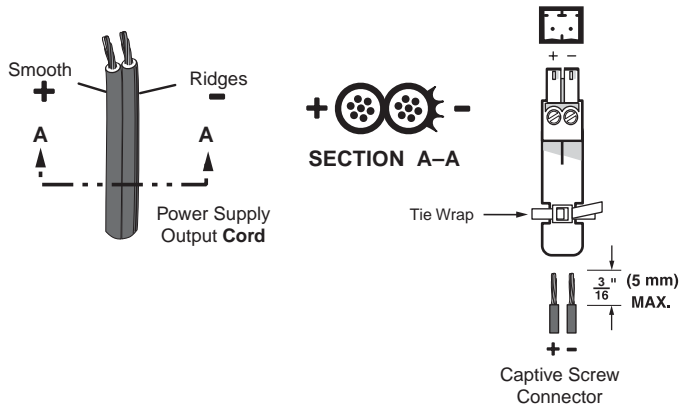

Figure 14. Power Connector Wiring
Figure 14 shows how to wire the power connector.
- Power supply voltage polarity is critical. Incorrect voltage polarity can damage the power supply and the unit. The ridges on the side of the cord (figure 14) identify the power cord negative lead.